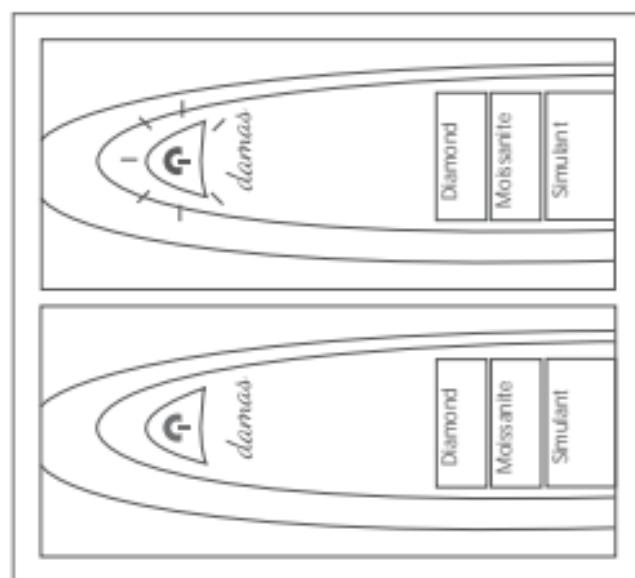

Figure 3
3. Press the Power Button to switch on the tester. Once the READY Light stops blinking, the tester is ready to enter calibration mode as shown in Figure 3. This process may take up to 15 seconds.